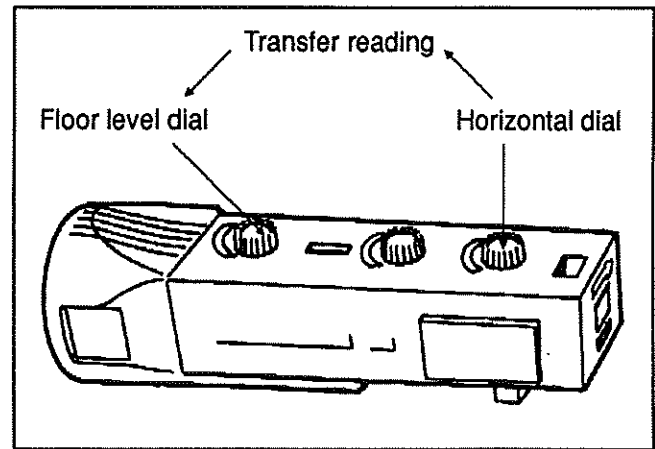

Fig. 44
6. Set according to floor slope. Transfer positive (+) or negative (-) reading of horizontal dial to the floor level offset dial to offset floor slope on each aligner (see fig. 44). Push on the floor level offset dial to register reading.